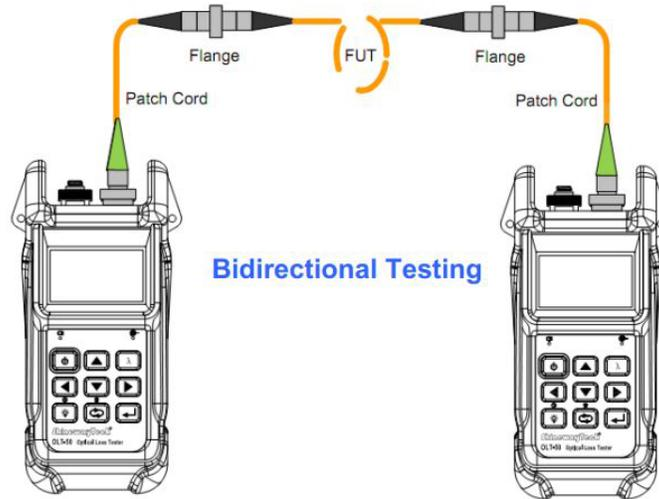

Figure 3.21
6. Toggle to [BiDirTest] sub-interface, connect measured fiber link as shown Figure 3.21, then select Start and then press , test is running, and then the test result will be displayed.